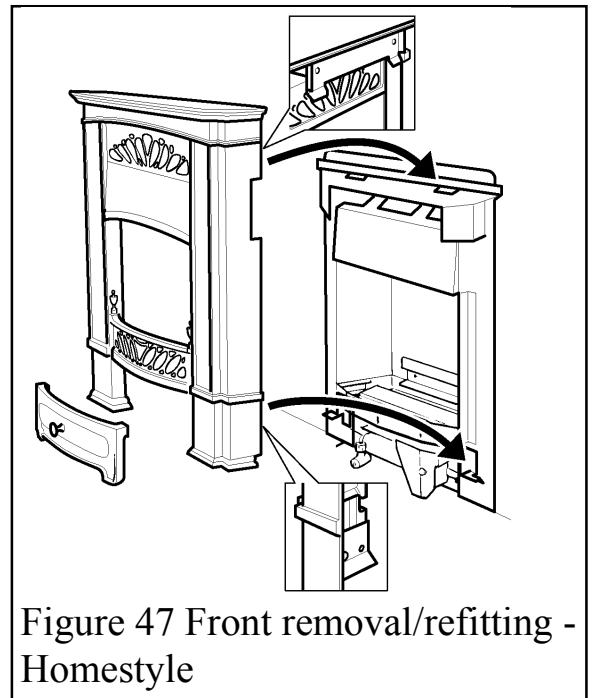

Figure 47 Front removal/refitting - Homestyle
2. Raise the front casting unit so that the bottom location brackets and the top location plate are released from the locations in the main fire case. See figure 47.